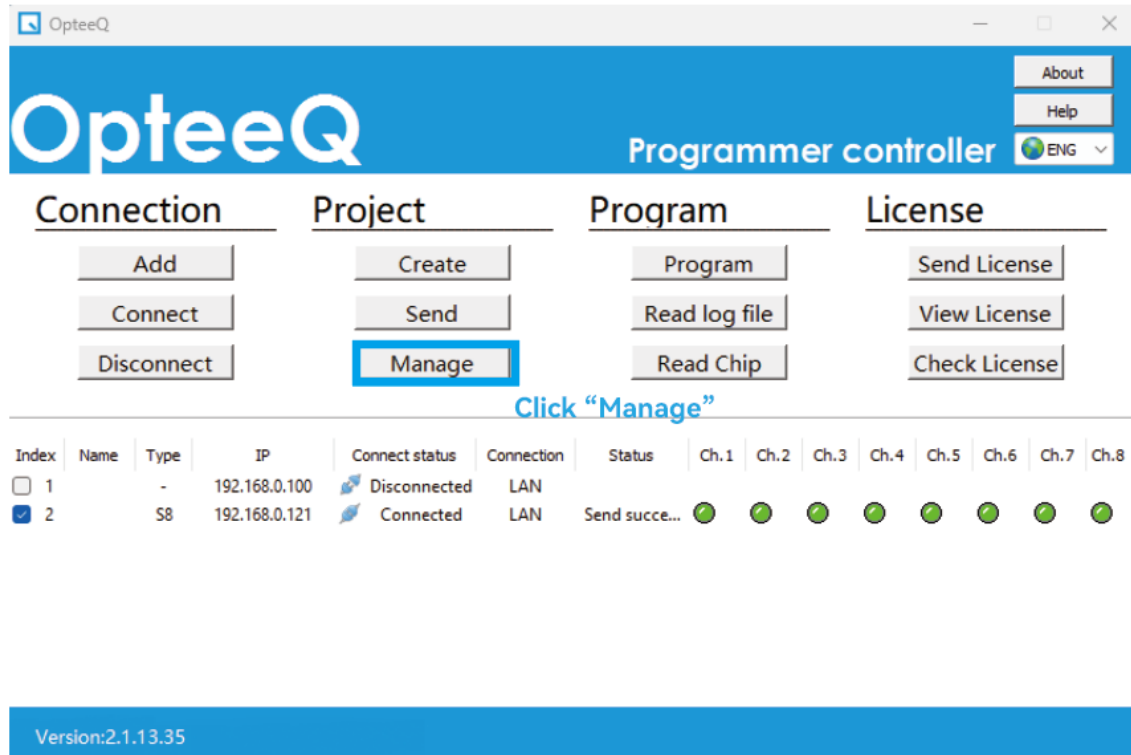

Figure 4.17 Project Management
- 1) Click "Manage Project" (as shown in Figure 4.17).